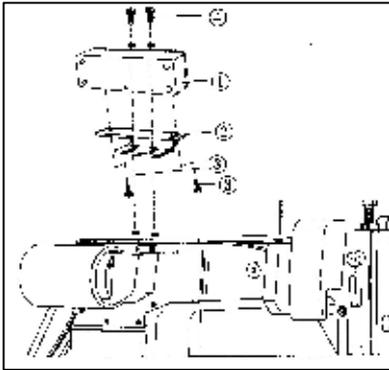

Fig.6
Use five fixing screws (4) to Stach the solenoid on the back side of machine head (Fig.6)
When the machine is equipped by manual knee-lifter, fasten the briket tightly using the free fixing screws in the back lid of the machine (Fig.6)
Use four fixing screws (3) to fix the bracket (2) onto the control panel. Using the two screws (4) to Stach the assembly on the top of machine head. (Fig.6,7)